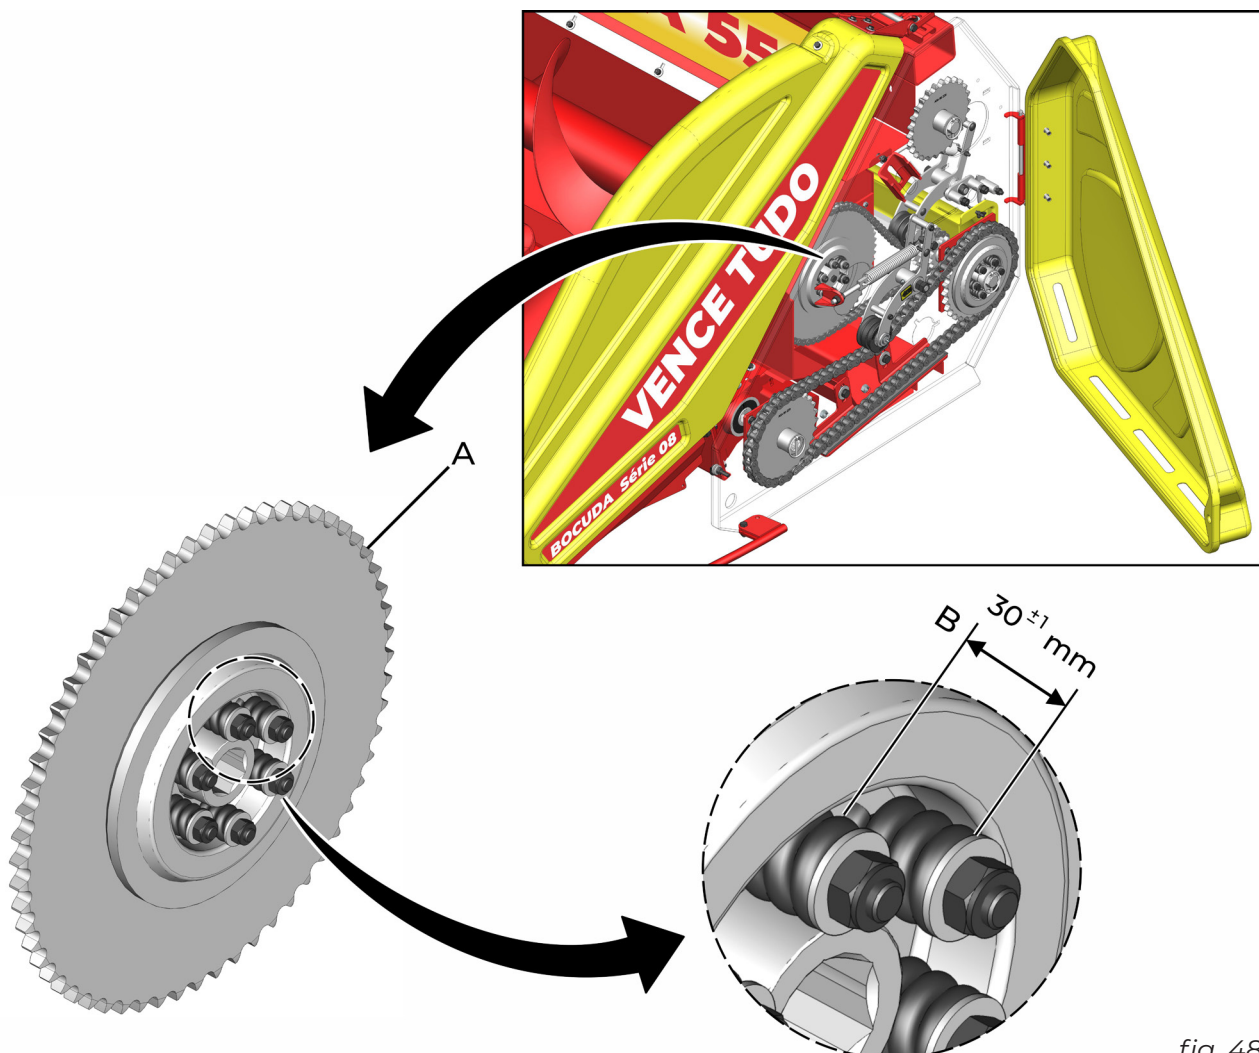

fig. 48
The transmission of the auger is provided with a safety system: the clutch (A) (fig. 48). All clutch elements are adjusted at the factory and the same procedures as the previous item must be adopted. However, for this clutch, observe the measurement (B) (fig. 48) for spring closing.